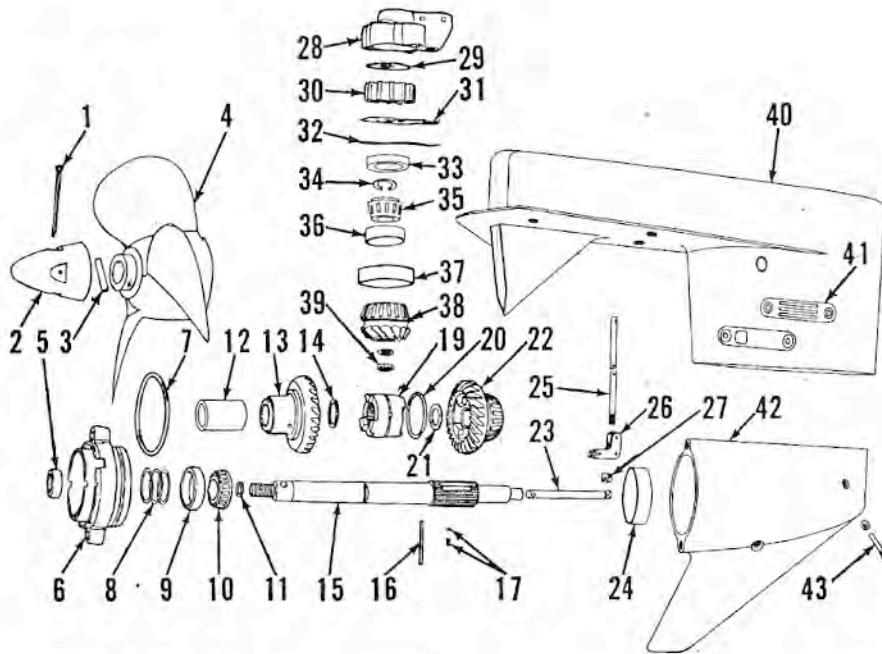

Fig. WB88—Exploded view of lower unit gearcase, drive shaft housing and associated parts.
R&R AND OVERHAUL. To remove the lower unit gearcase and drive shaft housing from lower motor leg, loosen the locknut (B—Fig. WB91) on upper shift rod, and disconnect the coupling (C). Remove the screws and stud nut retaining the drive shaft housing (upper gearcase) to motor leg and remove the complete lower unit drive assembly. Refer to Fig. WB88.
After backlash has been adjusted, the propeller shaft bearings must be adjusted by varying the thickness of front thrust washer (21—Fig. WB88). The bearings should be adjusted to approximately zero end play, and must be within the limits of 0.001 pre-load to 0.005 end play. Thrust washers are available in thicknesses of 0.059, 0.065, 0.068, 0.071, 0.074 and 0.077. To measure the bearing adjustment, assemble the propeller shaft, reverse gear (13) and bearing cone (10). Assemble the bearing cage, omitting the sealing ring (7). Install the propeller shaft assembly, thrust washer (21) and gear assembly (22) in gearcase (42) and measure end float with a dial indicator.
To reassemble the gearcase, install the shift rod (25—Fig. WB88) and shift pivot (26); and secure with pivot shaft (43). Install the shift arm yoke (27) in front slot of shift shaft (23) and insert the assembled propeller shaft, making sure the tabs on shift yoke (27) engage the fork slots in shift pivot (26).